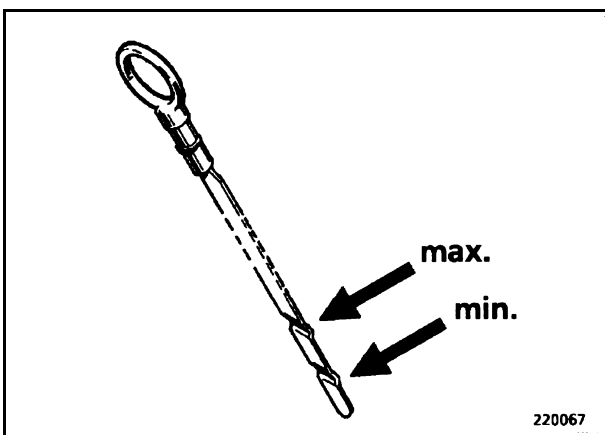
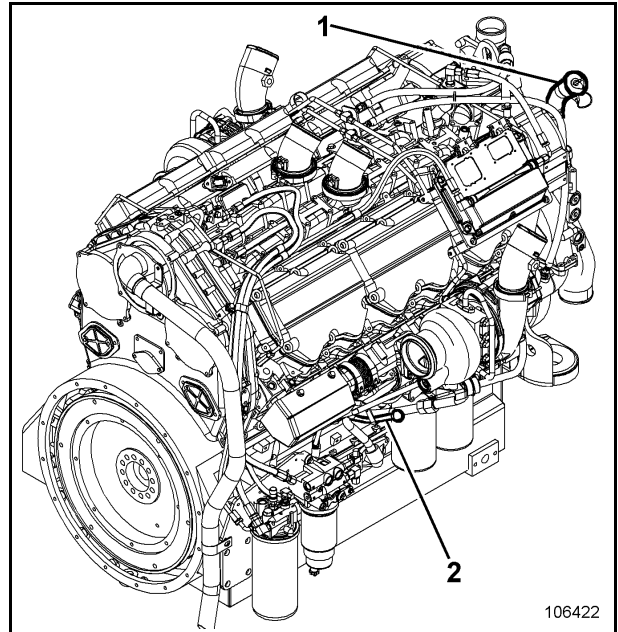

Fig. 3-12:
Fig. 3-13:
- Draw out oil dipstick (2, Fig. 3-13:).
- Draw out dipstick a second time. The oil level should now lie between the marks (arrows, Fig. 3-12:). If the oil level is at the "min" mark or below, top up with engine oil through filler tube (1, Fig. 3-13:).